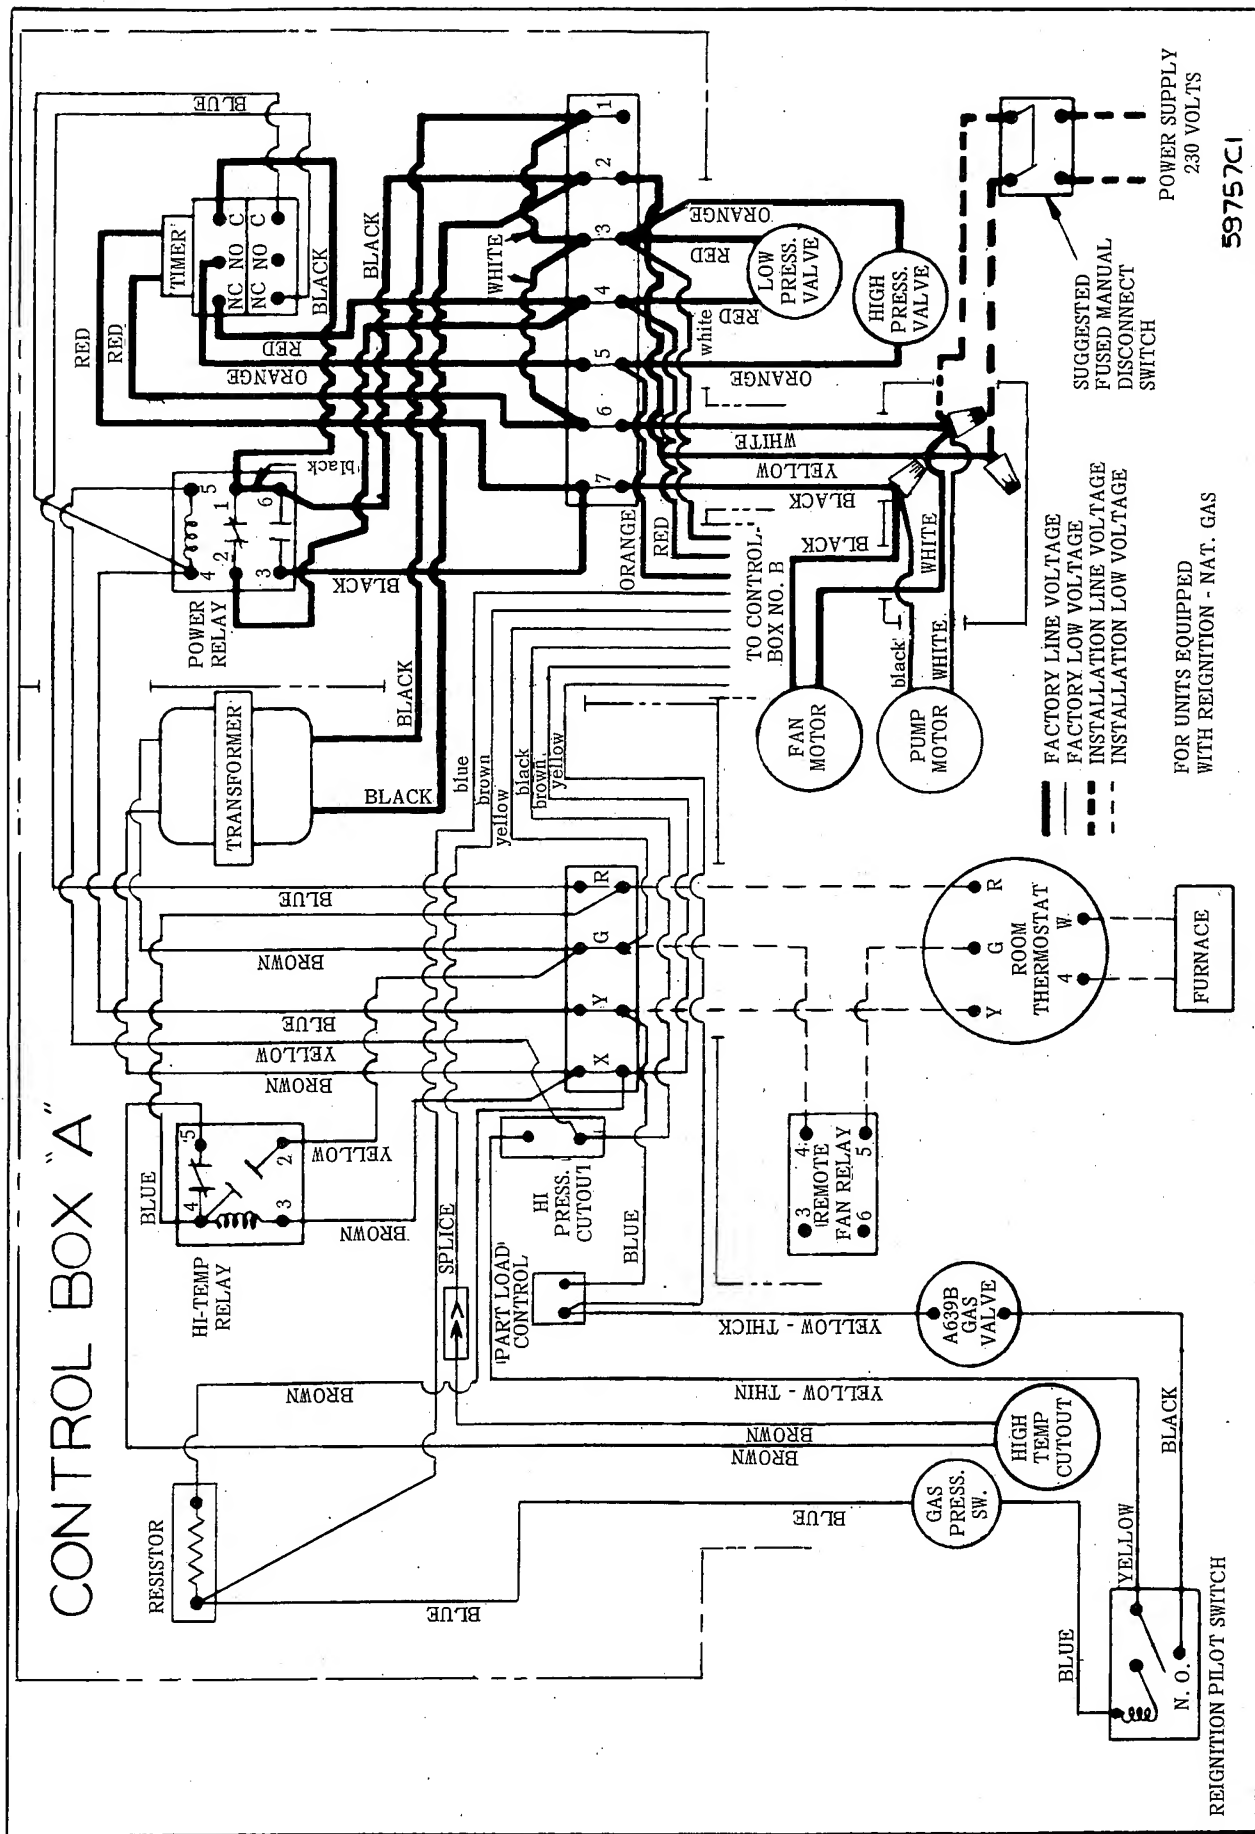

Figure 3 — Unit Wiring Natural Gas - Control Box A
5. Figures 3 & 4 are the Wiring Diagrams for the natural gas unit. Figures 5 & 6 are the Wiring Diagrams for an LPG unit.